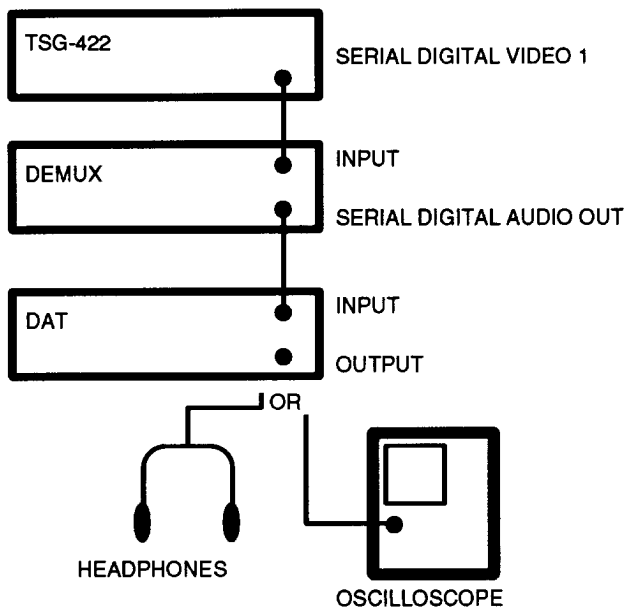

Fig. A-9. How to connect the test equipment to check the content of the embedded audio.
- Connect the equipment as shown in Fig. A-9, connecting the A probe to TP1.
- Connect the equipment as shown in Fig. A-9, connecting the A probe to TP101.